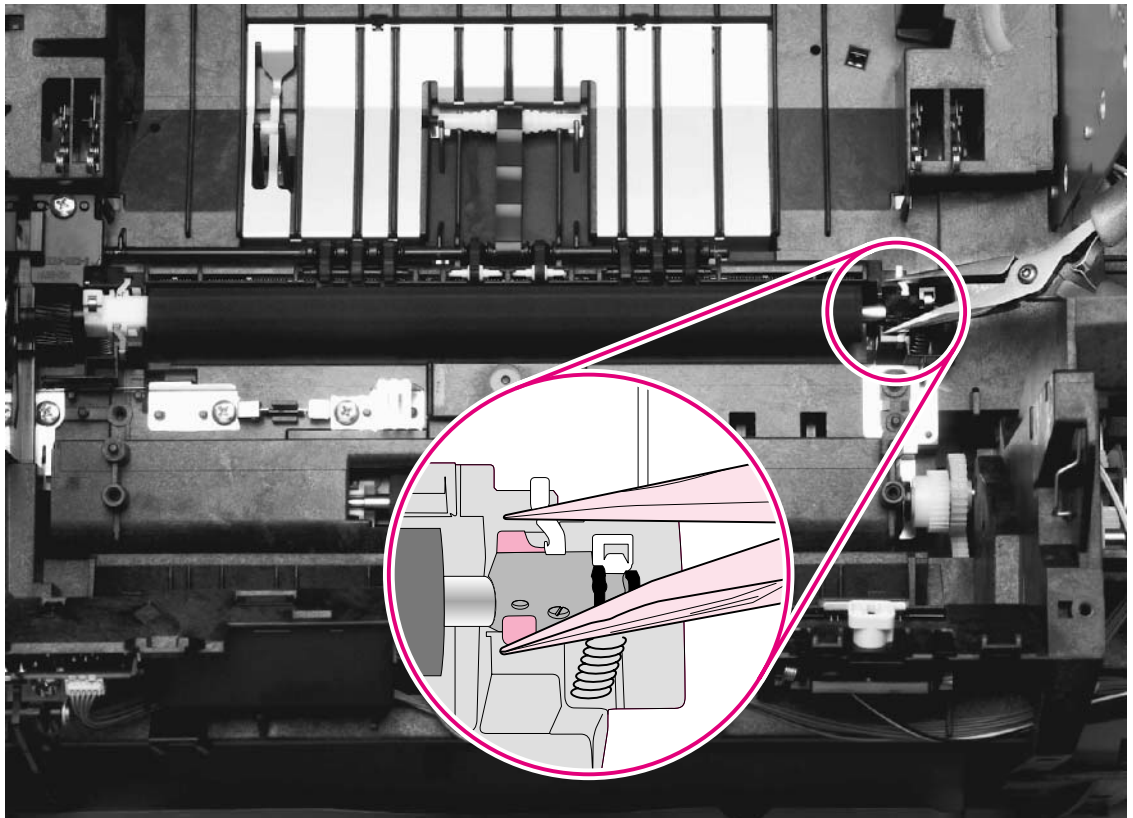

Figure 99. Removing the transfer roller
- 2 Use needle-nose pliers to gently squeeze the small tabs at the right side of the transfer roller (see the detail in figure 99) and then also squeeze the tabs at the left side of the transfer roller to release the roller.